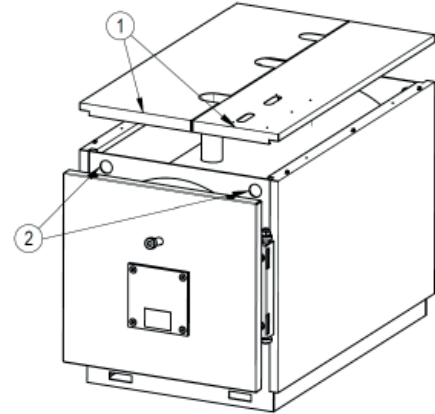

fig. 5
5.2.1 Para modelos **PREX THERM RSW 92N+600N** (Fig. 5)